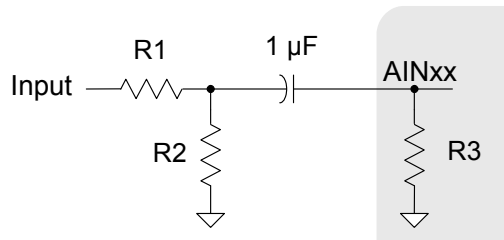
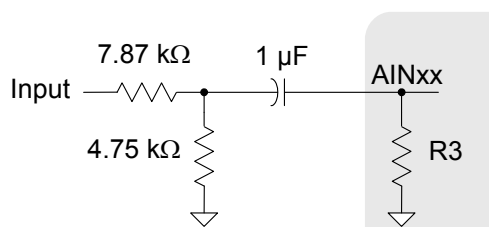

Figure 15. Analog Input Attenuation
Figure 16. Example Analog Input Attenuation
Three parameters determine the values of resistors R1 and R2 as shown in Figure 15: source impedance, attenuation, and input impedance. Table 2 shows the design equation used to determine these values.
- **Input Impedance:** Input impedance is the impedance from the signal source to the PGA analog input pins, including the PGA. The PGA’s input impedance (R3 in Figure 15, Table 2, and Figure 16) is given in the “Analog Input Characteristics” on page 14.
Figure 16 illustrates an example configuration with the PGA in-circuit using one 7.87 kΩ resistor for R1 and one 4.75 kΩ resistor for R2. Based on the discussion above, this circuit provides an optimal interface for both the PGA and the signal source. First, consumer equipment frequently requires an approximate input impedance of 10 kΩ, which the combination of the resistors provide. Second, this circuit will attenuate a typical line level voltage, 2 Vrms, to the full-scale input of the PGA, 0.7 Vrms when VA = 2.5 V. Finally, at approximately 3 kΩ, the source impedance is within the allowable range of the PGA.